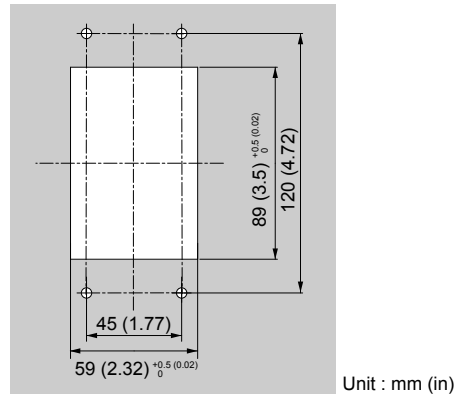

Figure 2.16 Panel Cut-Out Dimensions (Internal/Flush-Mount Installation)
1. Cut an opening in the enclosure panel for the HOA keypad as shown in **Figure 2.16**.